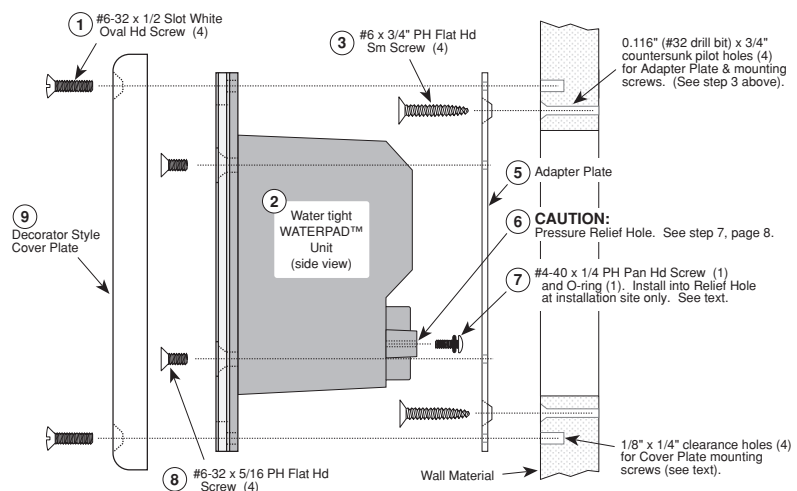

Fig. 9 Mounting the Waterpad directly onto a wall without a J-box.
- Since the Waterpad is fully enclosed, it may be possible, with some types of sturdy wall materials, to mount it directly to the wall surface. See Fig. 9.
If the wall material is sufficiently strong so that it will hold the threads of sheet metal or wood screws, you may be able to mount the Waterpad directly to the wall surface. Refer to **Fig. 9** and proceed as follows: